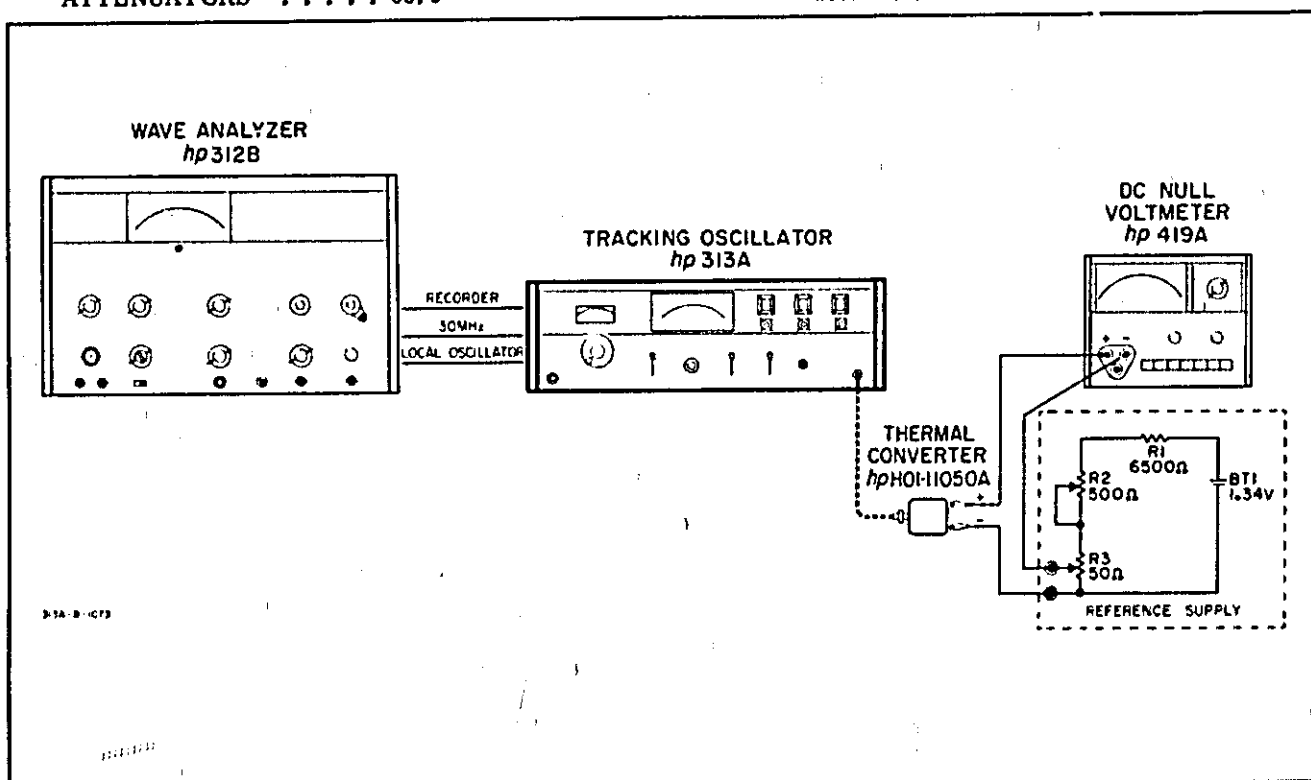

Figure 5-2. Output Frequency Response Test Setup
- a. Connect the 313A, 312B, Thermal Converter, Bucking Supply and 419A DC Null Voltmeter as shown in Figure 5-2.